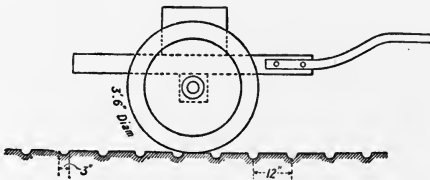

Fig. 3.
3. Fig. 3 represents a hand-cart which is wheeled along a cement pavement having the corrugated form shewn in the section. The total mass of the truck is 300 lbs., the mass of each wheel is 30 lbs., the radius of gyration and diameter of each wheel are $1\frac{1}{2}$ and $3\frac{1}{2}$ feet respectively. The truck is wheeled with its platform horizontal at an average speed of 3 feet per sec. Calculate the expenditure of energy necessary to maintain this motion due to the succession of impacts.